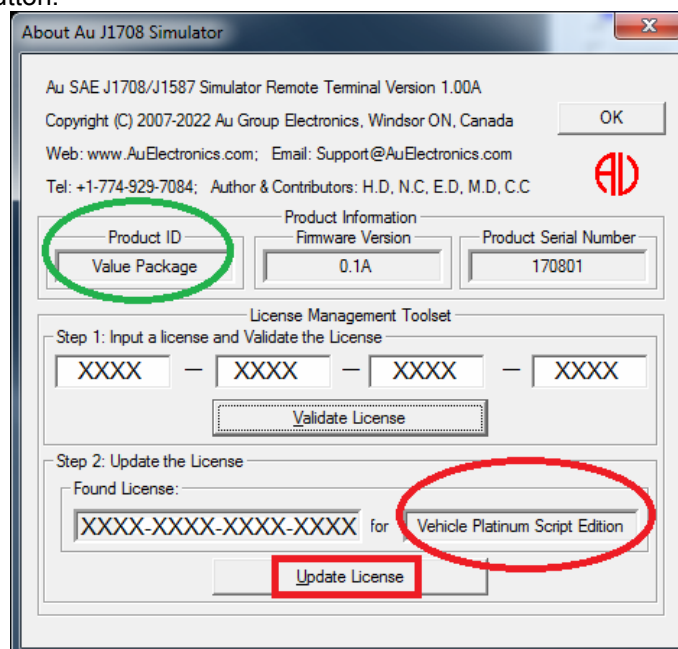

Figure 6-12
6. After a valid license is entered, Updated license information will display. As demonstrated below in Figure 6-12, J1708 Simulator Value Package edition will be upgraded to Vehicle Platinum Script Edition. Click "Update License" button.